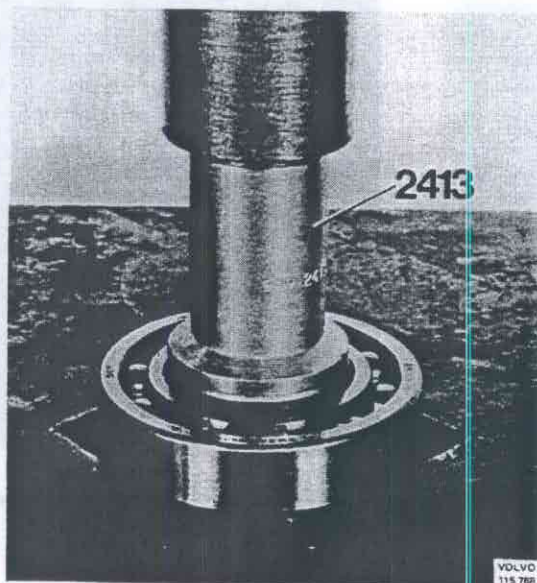

Fig. 46-123. Removing the bearing
8. Remove the circlip on the gear wheel and press off the bearing with 2413, Fig. 46-123.